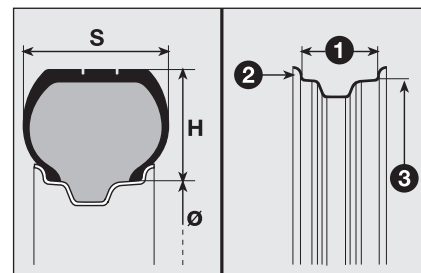

fig. 4
### READING TYRE MARKINGS fig. 4
**Maximum speed index****Q** = up to 160 km/h.**R** = up to 170 km/h.**S** = up to 180 km/h.**T** = up to 190 km/h.**U** = up to 200 km/h.**H** = up to 210 km/h.**V** = up to 240 km/h.**Maximum speed rating for snow tyres****QM + S** = up to 160 km/h.**TM + S** = up to 190 km/h.**HM + S** = up to 210 km/h.**Load rating (capacity)****70** = 335 kg | **81** = 462 kg**71** = 345 kg | **82** = 475 kg**72** = 355 kg | **83** = 487 kg**73** = 365 kg | **84** = 500 kg**74** = 375 kg | **85** = 515 kg**75** = 387 kg | **86** = 530 kg**76** = 400 kg | **87** = 545 kg**77** = 412 kg | **88** = 560 kg**78** = 425 kg | **89** = 580 kg**79** = 437 kg | **90** = 600 kg**80** = 450 kg | **91** = 615 kg**READING RIM MARKINGS fig. 4****Example: 6J x 15H2****6** = rim width in inches **1**.**J** = rim drop centre outline (side projection where the tyre bead rests) **2**.**15** = rim nominal diameter in inches (corresponds to diameter of the tyre to be mounted) **3** = Ø.**H2** = shape and number of humps (contour used for withholding tubeless tyre beads on the rim).